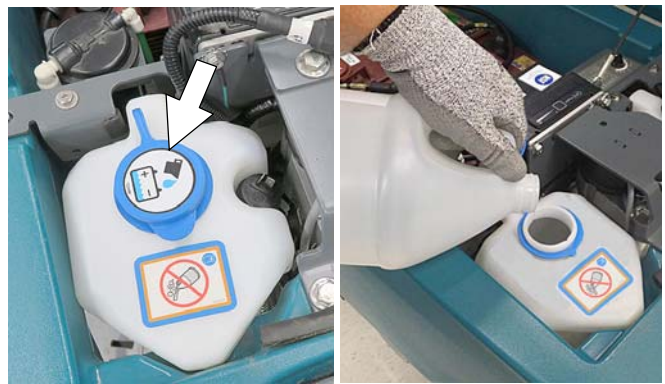

FIG. 62
10. Automatic battery watering option - Refill tank with distilled water (Figure 62). Replace cap.